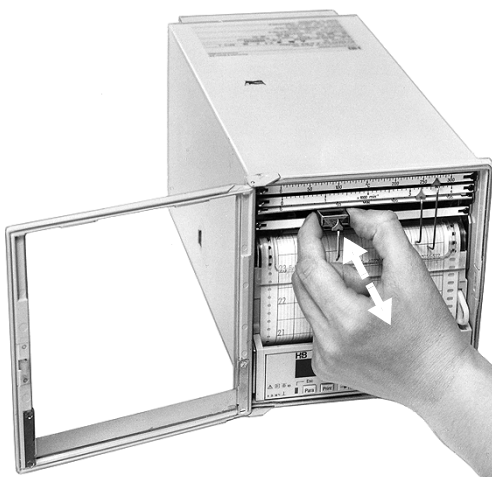

Figure 11 Installing, removing the fiber pen insert
3. Install the fiber pen insert in the recording carriage (see Figure 11).
1. Remove the fiber pen insert from the recording carriage (see Figure 11).